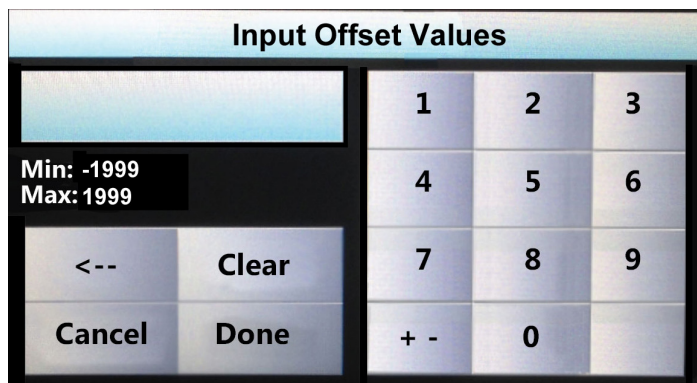

Fig. 109: Input Offsets Value Keypad
4. To adjust the low point offset, press on the LOW POINT OFFSET box. A keypad will appear (Fig. 109).